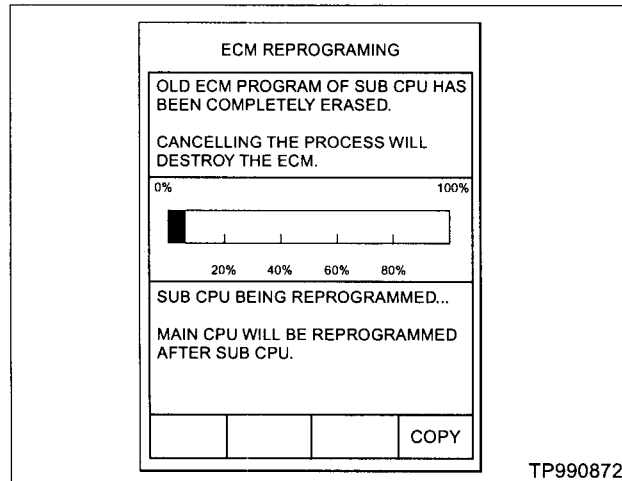

Figure 23
32. Press "START". After a moment the window shown in Figure 23 will appear. CONSULT-II will now turn off its screen backlight and reprogram the ECM.